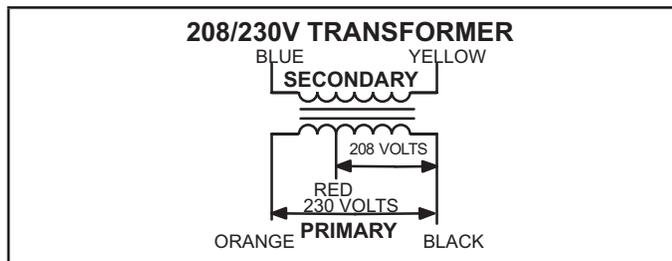

FIGURE 1
All models use a single line voltage to 24VAC transformer mounted in the control box. Transformer T1 supplies power to control circuits in the unit. The transformer is rated at 90VA and is protected by a 6.0 amp circuit breaker (CB8). CB8 is internal to the transformer. The 208/230 (Y) voltage transformers use two primary voltage taps as shown in figure 1, while 460 (G) and 575 (J) voltage transformers use a single primary voltage tap.